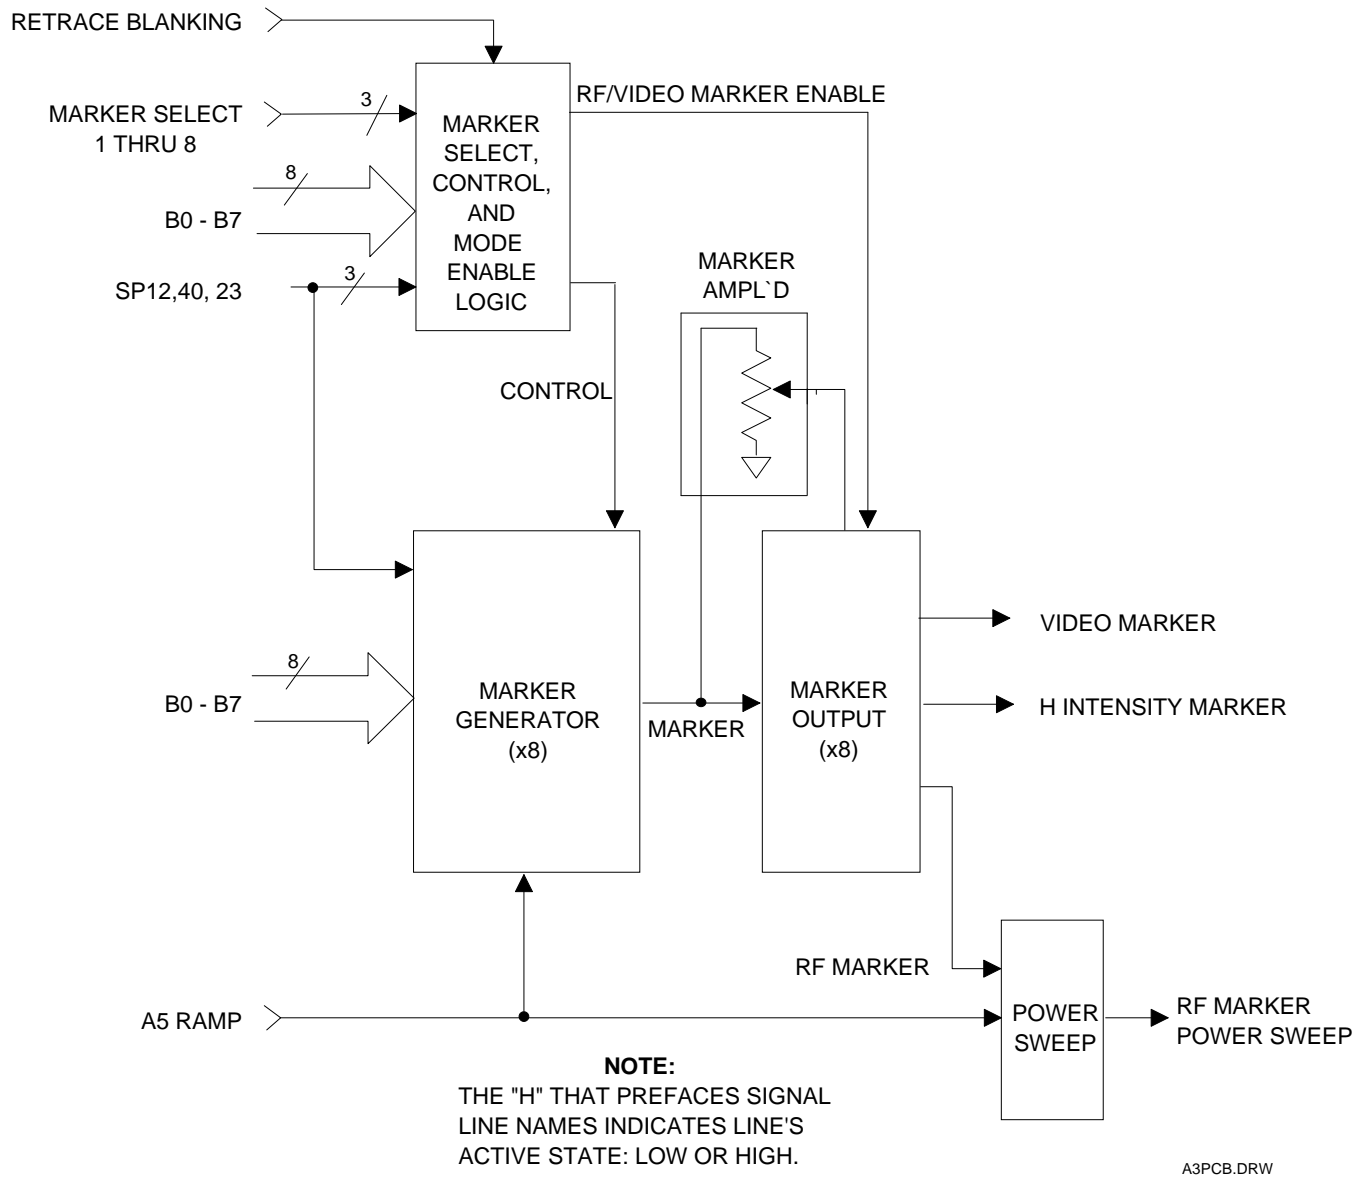

Figure 2-6. A1A3 Marker Generator CCA Functional Block Diagram
e. *A1A3 Markers Generator PCB.* This PCB (Figure 2-6) generates the M1 thru M8 RF, Video, and Intensity markers. This PCB has four functional blocks. Inputs to the PCB are as follows: